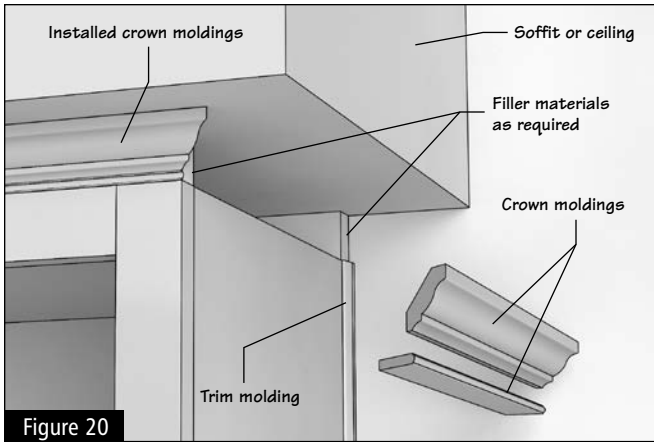

Figure 20
7.2 Crown moldings mount along the top edge of the cabinets. If your cabinets are full overlay, you may need to install some blocking material to the top of the cabinet first. (Figure 20)